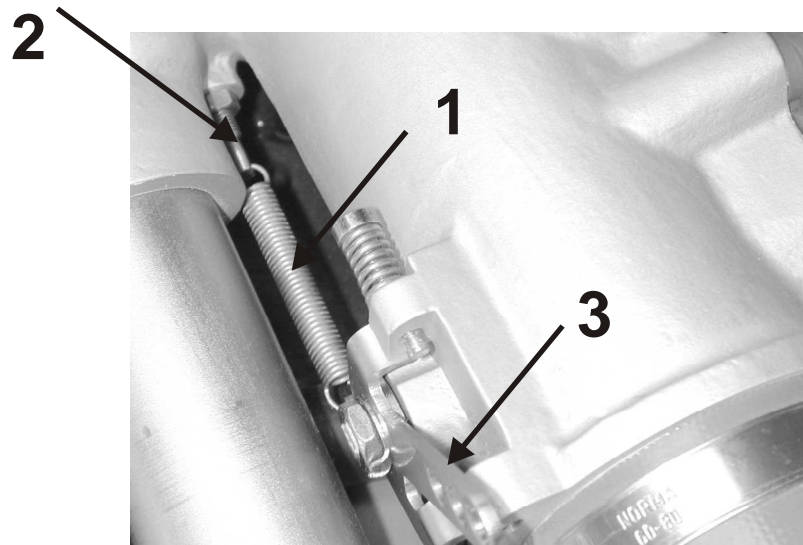

Fig. 2
On engines that were not yet modified according to TB 67 (Fig. 2) the old spring (1) must be removed also.